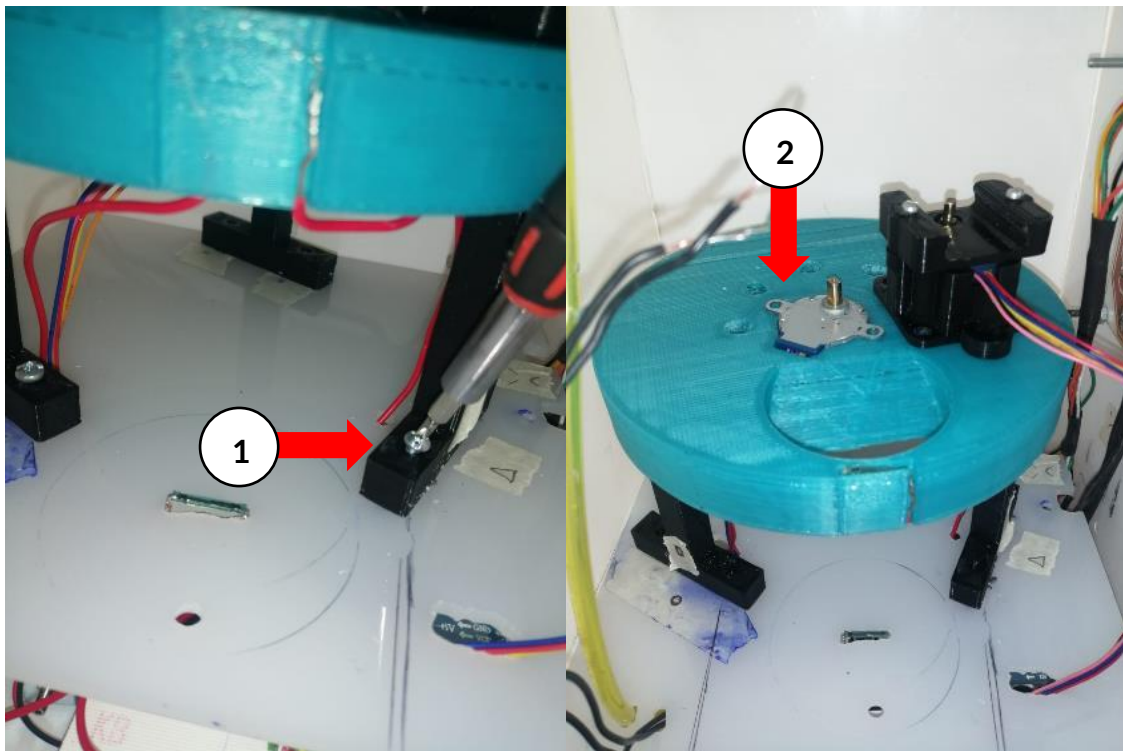

Figure 26- Base Secured to Intermediate Divider (1) and Stepper Motor Attached (2)
9. The base is screwed to the intermediate division (1) and a stepper motor is inserted into the hole (2) shown in Figure 26.